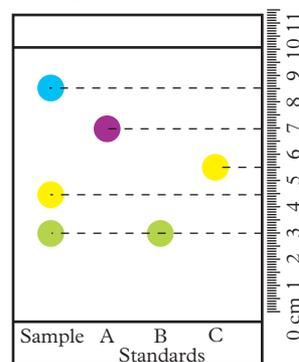

FIGURE 6 Separation of dyes in a marker pen and comparison to standard dyes
- 22 Figure 6 shows a separation conducted to determine the types of ink in a sample of marker pen. The stationary phase is paper and the mobile phase is 10% ethanol in water.